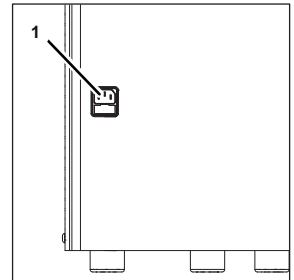

Figure 22
- c. Measure the voltage at the unit mains connection (Figure 22/1) using a multimeter. Make sure the voltage drops to a value of 0 V in the process.